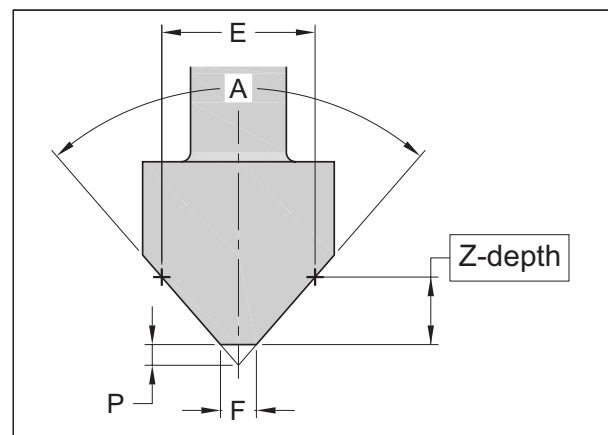

Figure 26-24
*Figure 26-24* shows provided dimensions  $E$ ,  $A$ , and  $F$  and unknown  $P$  and  $Z$ -depth countersinking dimensions required for depth programming of a countersinking tool.